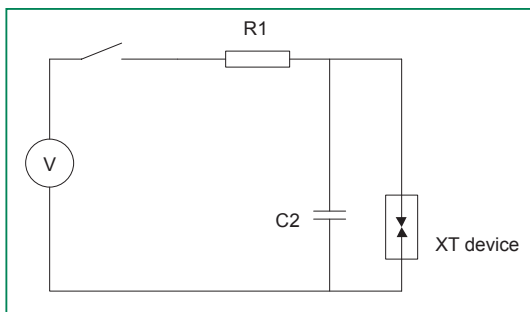

Fig 1. Recommended breakover voltage test circuit
- (1) Measured on recommended test circuit (fig 1.)
- (2) Measured @ 100 Volts DC
- (3) Current required for transition to on-state
- (4) Measured @ 1 MHz, zero Volt bias